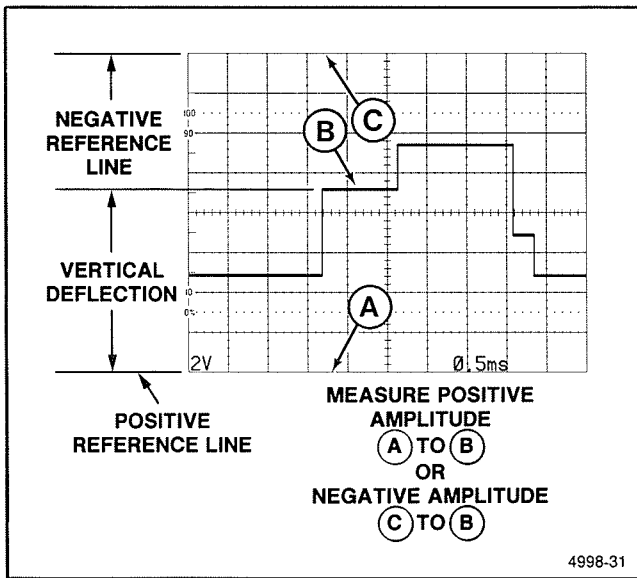

Figure 6-18. Ground referenced voltage measurement.
4. Set the AC-GND-DC switch to DC. Measure the divisions of vertical deflection between the reference line and the desired point on the waveform (see Figure 6-18).
**EXAMPLE:** The vertical distance measured is 4.6 divisions (see Figure 6-18). The waveform is above the reference line, the VOLTS/DIV switch is set to 2 V, and a 10X scale-factor-switching probe is used.